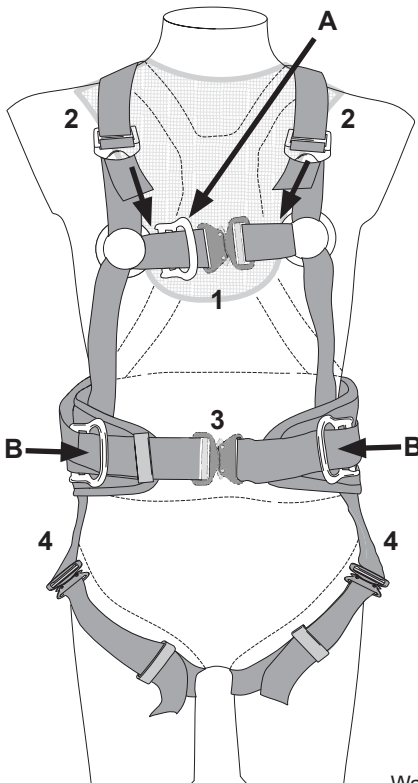
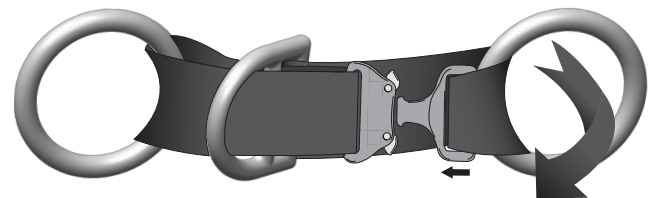

fig 1 - front
fig 3 - Fastening chest strap
The Vortex H34Q Full Body Harness is personal protective equipment designed to protect the wearer from falls from height. It has been specifically designed for use in Wind Turbine Generators (WTG) and can be used for fall arrest, work positioning and vertical rescue. H34Q2 and H34Q2L is available with a steel rather than aluminium alloy chest attachment point. Figure 1 'A'.
Open leg buckles and then put on harness as a jacket. Fasten chest, waist and leg buckles, then adjust all buckles to fit, these are shown in Figure 1; chest (1), shoulder (2), waist (3), Leg (4). Chest strap is fastened as shown in Figure 3 and Quick Connect buckles as shown in Figure 4. To release Quick Connect buckles, the tabs on both sides of buckle must be pressed simultaneously.
These are marked in figures 1 & 2 with: